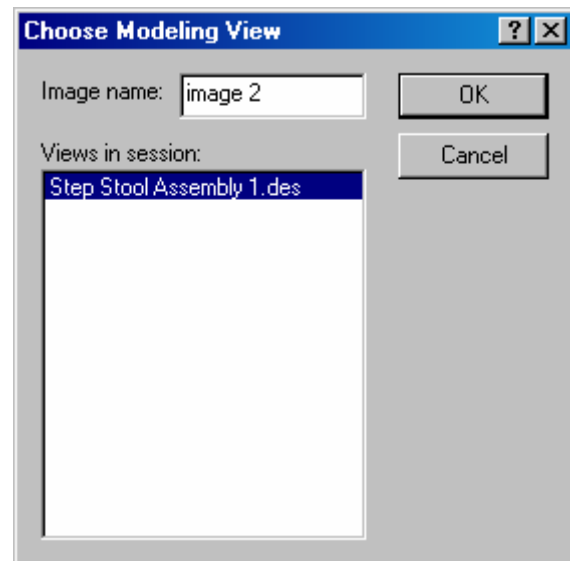

Figure 26. Choosing an Open session to load into an Album.
53. A new window will open but there will be no image in it. If you already have the previously completed assembly design open, it can be loaded by selecting the Image drop down menu and select New Image. A dialog box will appear with the assembly design (and any other designs that are open) as in figure 26. Press OK to load the design.